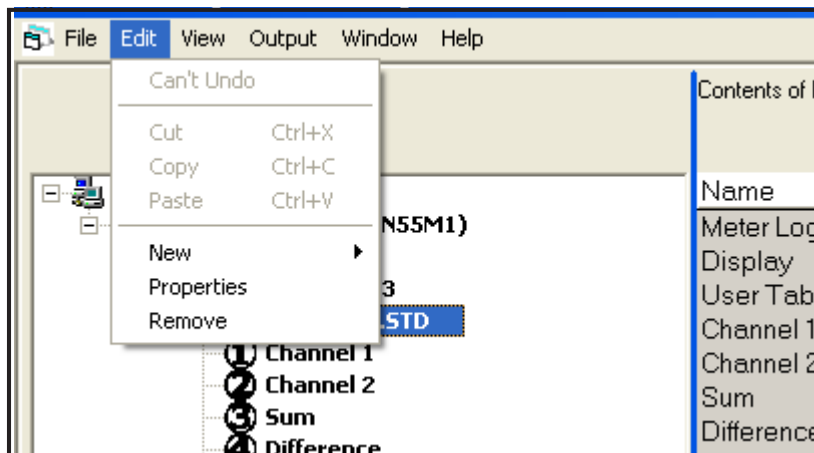

Figure 46: Properties Option
2. Right-click on the highlighted XGF868i and select the *Properties* option, as shown in Figure 46.